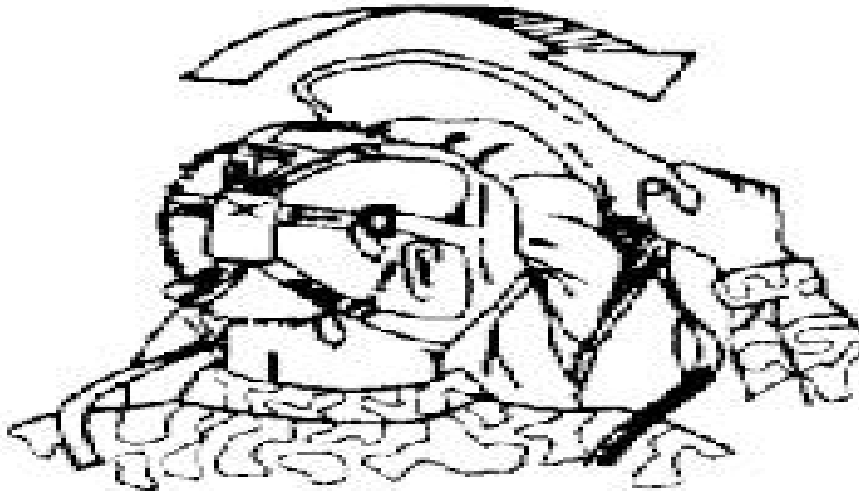

Figure E-68. Pull hood over facepiece.
- e. Remove the hood (figure E-68).